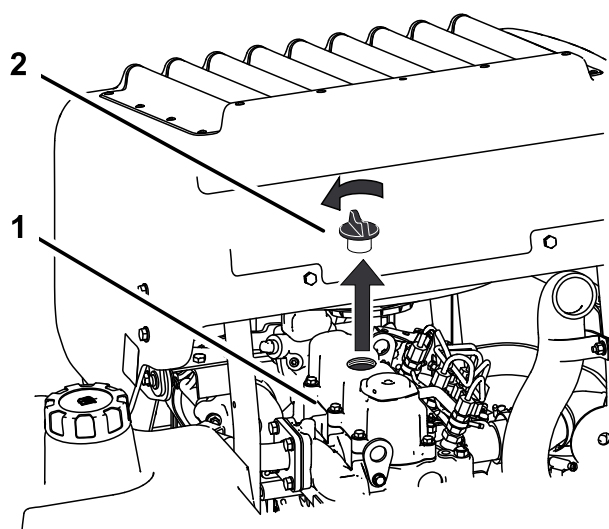

Figure 41
6. Remove the oil filler cap from the top of the engine (Figure 41). This will help the oil to drain.
2. Remove the oil filler cap and the dipstick (Figure 41).